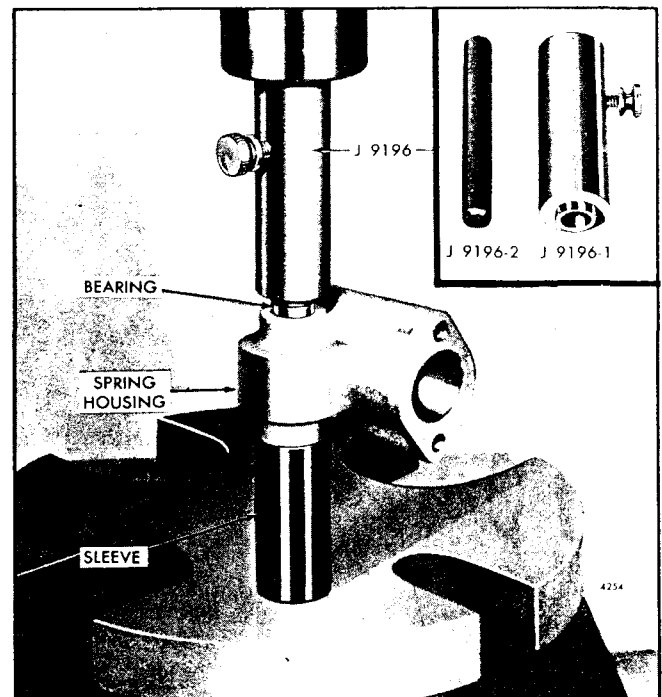

Fig. 15 - Installing Speed Control Shaft Bearing in Spring Housing
housing, bearing and installer on a short sleeve on the bed of an arbor press as shown in Fig. 15, then press the bearing in the housing until the shoulder on the installer contacts the housing.
- j. Remove the bearing pilot rod J 9196-2 from the installer body J 9196-1 and place the installer body over the end of the shaft and against the bearing. Support the spring housing, bearings and installer on a short sleeve on the bed of an arbor press as shown in Fig. 15, then press the bearing in the housing until the shoulder on the installer contacts the housing.